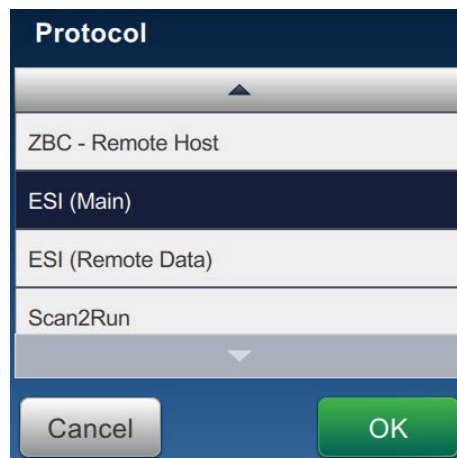

Figure 7-6: Protocol Options Screen
10. Select *ESI (Main)* option from the Protocol screen as shown in Figure 7-6. Touch the *OK* button to confirm the selection. The *Under Remote Control* message in the banner will appear when protocol is selected.